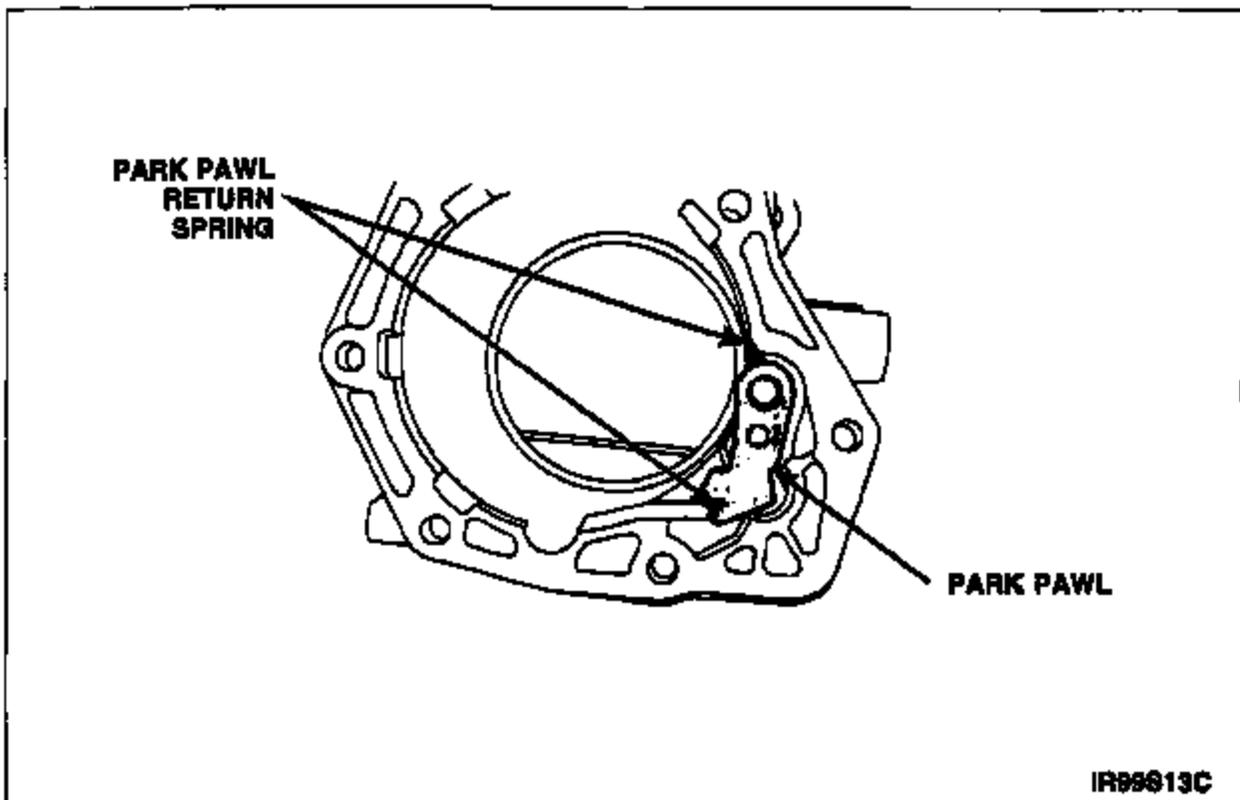

FIGURE 3
20. Remove the park pawl and park pawl return spring from the extension housing. See Figure 3.